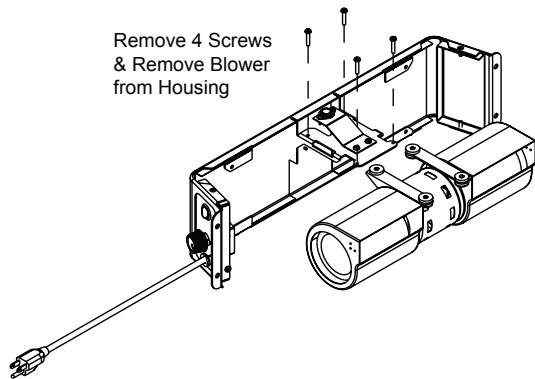

Figure 26.2
3. Using a Phillips head screw driver, remove 4 screws (**Figure 26.2**).